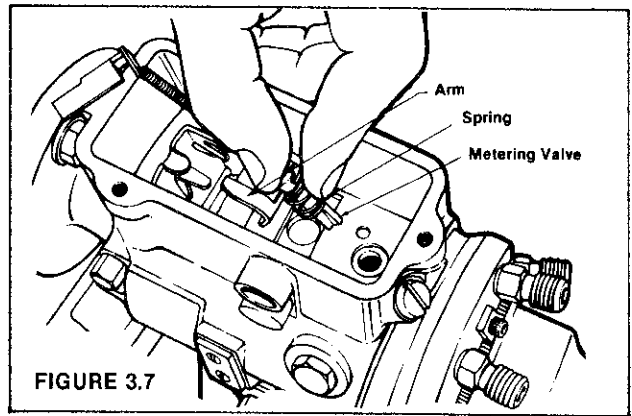

FIGURE 3.7
STEP 7 Remove the metering valve assembly (Figure 3.7).